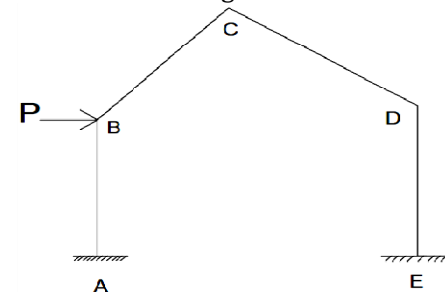

Fig. 10
7. (a) Show the various independent collapse mechanisms viable to occur the gable frame as shown in fig. 10.